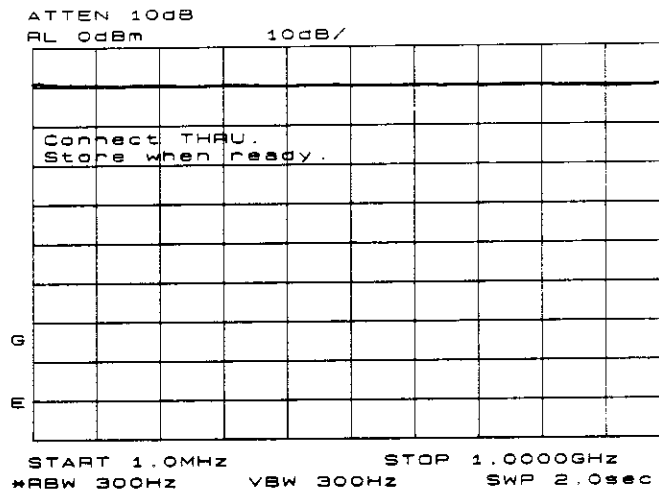

Figure 3-22. Guided calibration routines prompt the user.
5. Calibration in a transmission measurement is done using a through (thru). To calibrate using a thru, press **AUX CTRL**, **TRACKING GENERATOR**, **SOURCE CAL MENU**, **CAL THRU**. The guided calibration routine prompts you to connect the thru, as illustrated in Figure 3-22. Connect the thru, and press **STORE THRU** when ready. When **STORE THRU** is pushed, the thru trace is stored into trace B and into an internal memory location in the analyzer. The state information of the thru-calibration trace is stored in state register #9. This trace can be recalled for future use. Figure 3-23 shows what appears on-screen after the thru trace is stored. Trace B is in view, depicting the thru trace.